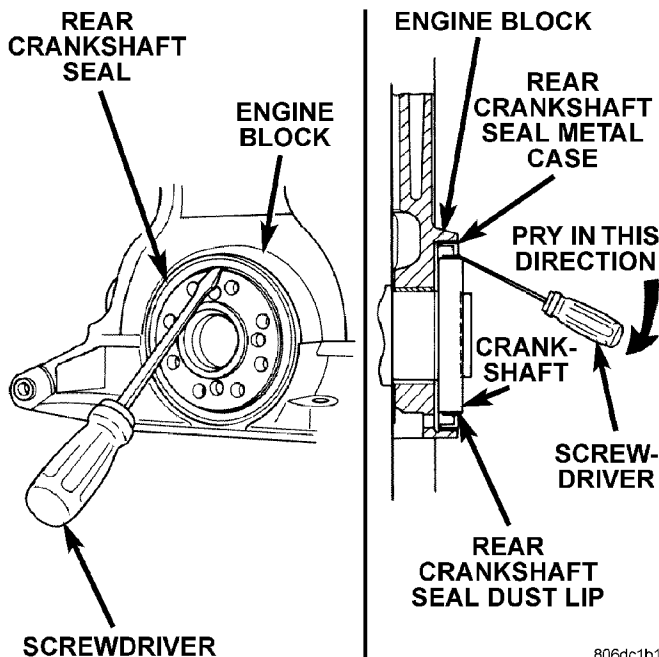

Fig. 62 Rear Crankshaft Oil Seal—Removal
(1) Insert a 3/16 flat bladed screwdriver between the dust lip and the metal case of the crankshaft seal. Angle the screwdriver (Fig. 62) through the dust lip against metal case of the seal. Pry out seal.